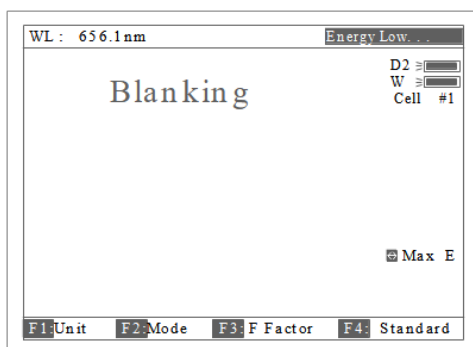
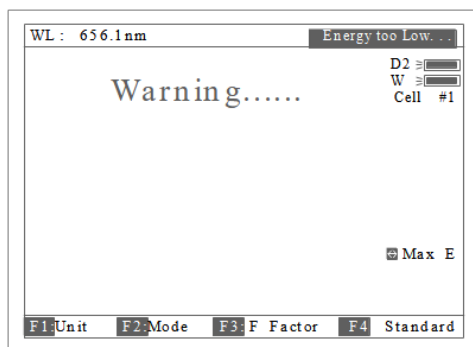

Fig 8
Fig 9
Note 1. If the reference solution is too thick, "Energy Low..." will appear following the "Blanking..." on the screen (Fig 8). If "Energy too Low..." appears following the "Blanking...", the test will be paused and "Warning..." will appear on the screen. (Fig 9)
2. If no automatic changer installed "cell #1" and "Max E" will disappear in Fig 8